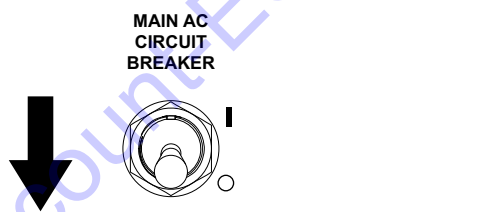

Figure 3-30. Main AC Circuit Breaker OFF (O)
3. See Figure 3-30. Switch main AC circuit breaker to OFF (O).